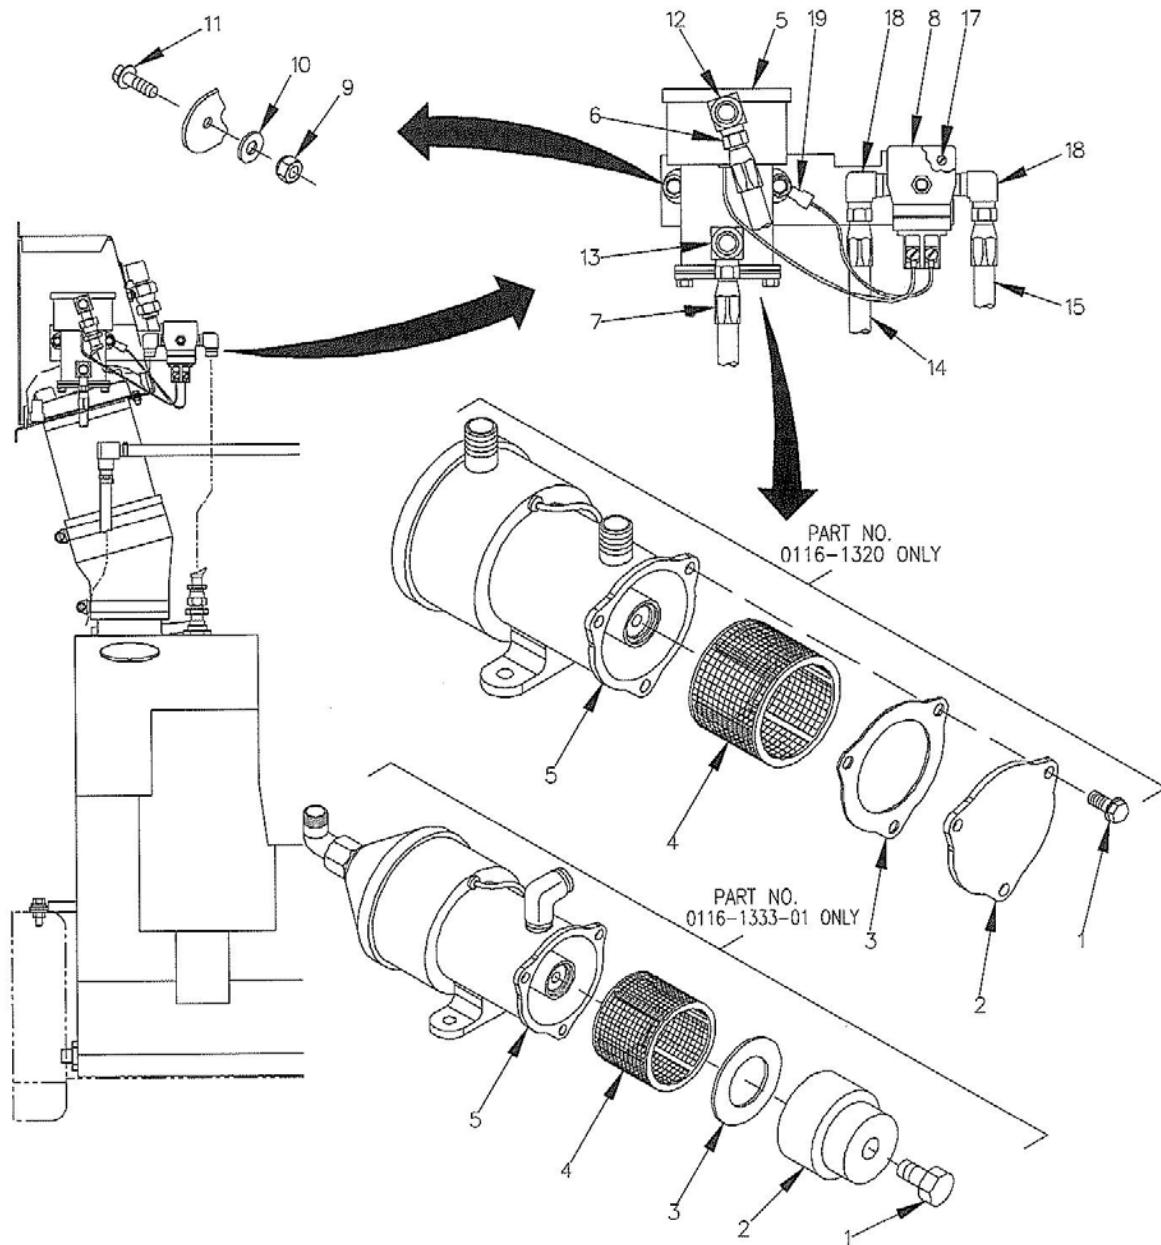

Figure 1. Main Fuel Pump and Auxiliary Fuel Pump Assembly with Solenoid Valve.
4. Remove fuel bowl (Figure 1, Item 2), O-ring (Figure 1, Item 3), and strainer (Figure 1, Item 4) from auxiliary fuel pump (Figure 1, Item 5).
5. Clean strainer (Figure 1, Item 4) with clean fuel. Replace strainer if damaged.
6. Install strainer (Figure 1, Item 4), O-ring (Figure 1, Item 3), and fuel bowl (Figure 1, Item 2) on auxiliary fuel pump (Figure 1, Item 5) and secure with bowl screw (Figure 1, Item 1).
3. Disconnect hose (Figure 1, Item 6) and hose (Figure 1, Item 7) from auxiliary fuel pump (Figure 1, Item 5).
4. Tag and disconnect wires coming from solenoid valve (Figure 1, Item 8).
5. Remove two locknuts (Figure 1, Item 9), washers (Figure 1, Item 10), screws (Figure 1, Item 11), and auxiliary fuel pump (Figure 1, Item 5).
6. If necessary, remove elbow (Figure 1, Item 12) and elbow (Figure 1, Item 13).
7. Disconnect two hoses (Figure 1, Item 14) and (Figure 1, Item 15) from solenoid valve (Figure 1, Item 8).
8. Remove two screws (Figure 1, Item 17), lock washers (not shown), and solenoid valve (Figure 1, Item 8).
9. If necessary, remove two elbows (Figure 1, Item 18).
1. If removed, install two elbows (Figure 1, Item 18).
2. Install solenoid valve (Figure 1, Item 8), two lock washers (not shown), and two screws (Figure 1, Item 17).
3. Connect two hoses (Figure 1, Item 15) and (Figure 1, Item 14) to solenoid valve (Figure 1, Item 8).
4. If removed, install two elbows (Figure 1, Item 13) and (Figure 1, Item 12) to auxiliary fuel pump (Figure 1, Item 5).
5. Making sure ground lug (Figure 1, Item 19) is positioned between screw (Figure 1, Item 11) and washer (Figure 1, Item 10), install auxiliary fuel pump (Figure 1, Item 5), two screws (Figure 1, Item 11), washers (Figure 1, Item 10), and locknuts (Figure 1, Item 9).
6. Remove tags and connect wires to solenoid valve (Figure 1, Item 8).
7. Connect hose (Figure 1, Item 7) and hose (Figure 1, Item 6).